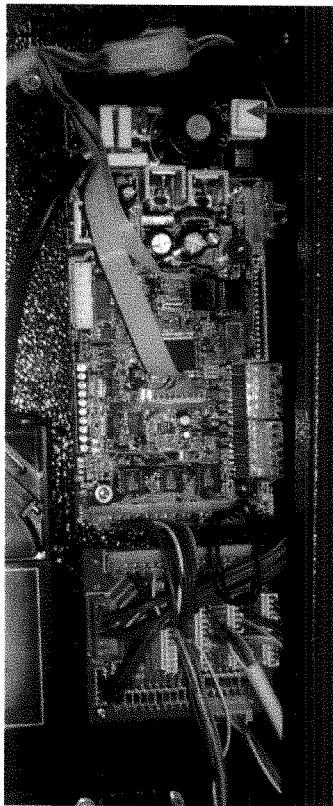

Figure 24 – Service mode button
- a. Push the service mode button on the main control board (*reference figure 24*).
- To activate the service mode Push the service mode button on the main control board (*reference figure 24*).